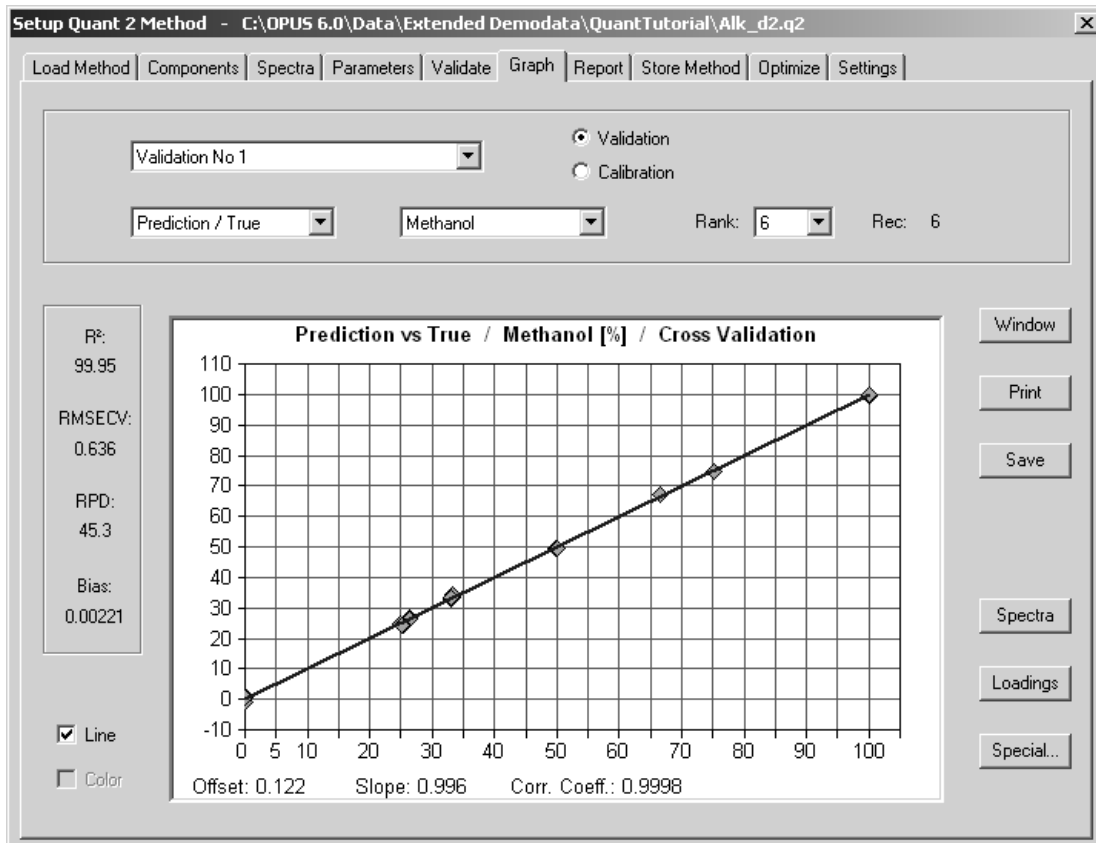

Figure 19: Setup Quant 2 Method – Display of the Predicted against the True Concentration Values
- 7) Figure 19 shows the diagrammatic representation of the validation result. By default, the predicted concentration values versus the true concentration values (i.e. the concentration values you have entered on the *Spectra* page) are displayed. Outliers are marked in red. The recommended rank *Rec.* is in our case 6. The results of the predicted concentration values are displayed for this rank, but the display can be changed by selecting a different rank in the *Rank* drop-down list. In addition, the name of the validation, the component for which the result is shown, as well as the values for RMSECV (root mean square error of cross validation) and R^2 (coefficient of determination) are displayed. (For detailed information refer to chapter 2).